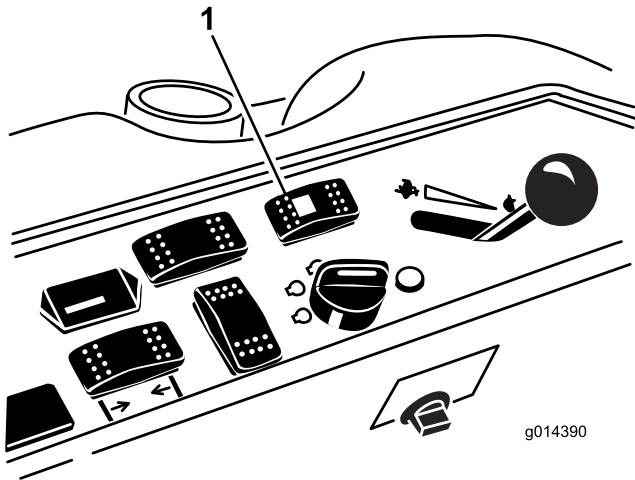

Figure 43
1. Press the steering selector switch to the rearward (four wheels steer) position (Figure 43).